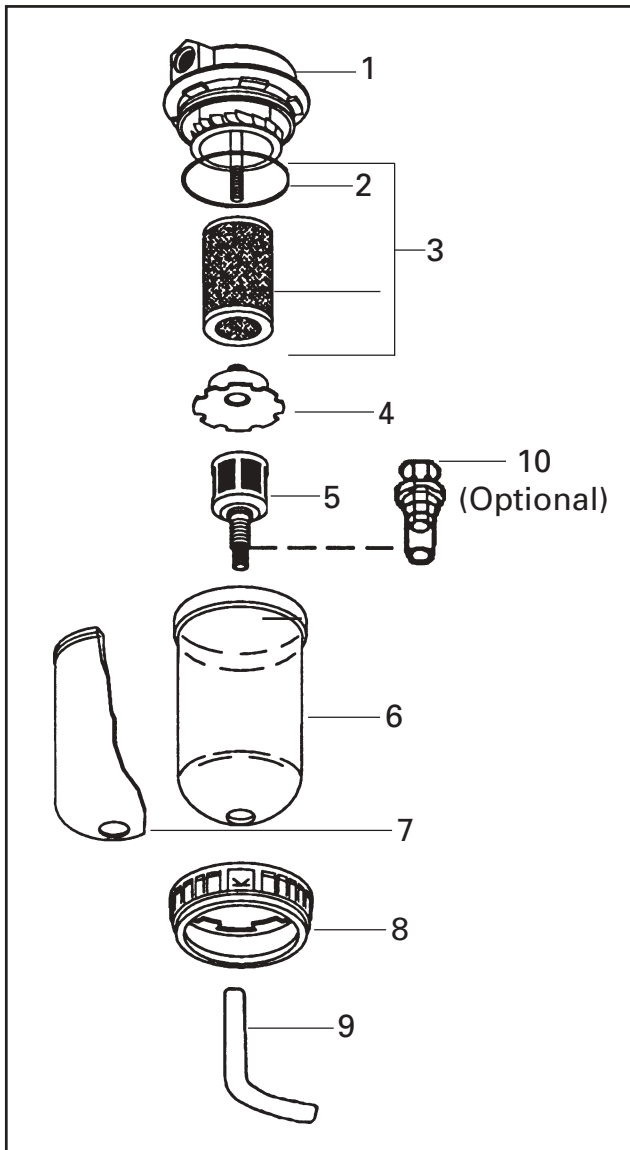

Figure 4 HAF-503 150 CFM Separator Filter
9. An optional manual drain (HAF-11) is supplied loose in the carton (see Item 10 or 11, Fig. 4 or 5). If desired, this can be installed in place of the automatic drain.
PARTS LIST - Model HAF-503, Figure 4